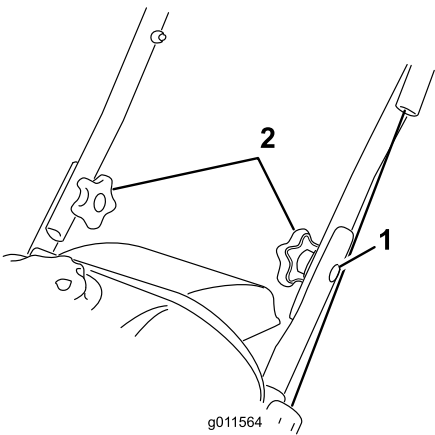

Figure 3
- Insert the oval-head bolts into the aligned holes, with the bolt heads on the outside of the handle (Figure 3).
1. Oval-head bolt (2)
- Install the curved washers and the handle knobs on the oval-head bolts on the inside of the handle (Figure 3) and **tighten the knobs securely**.